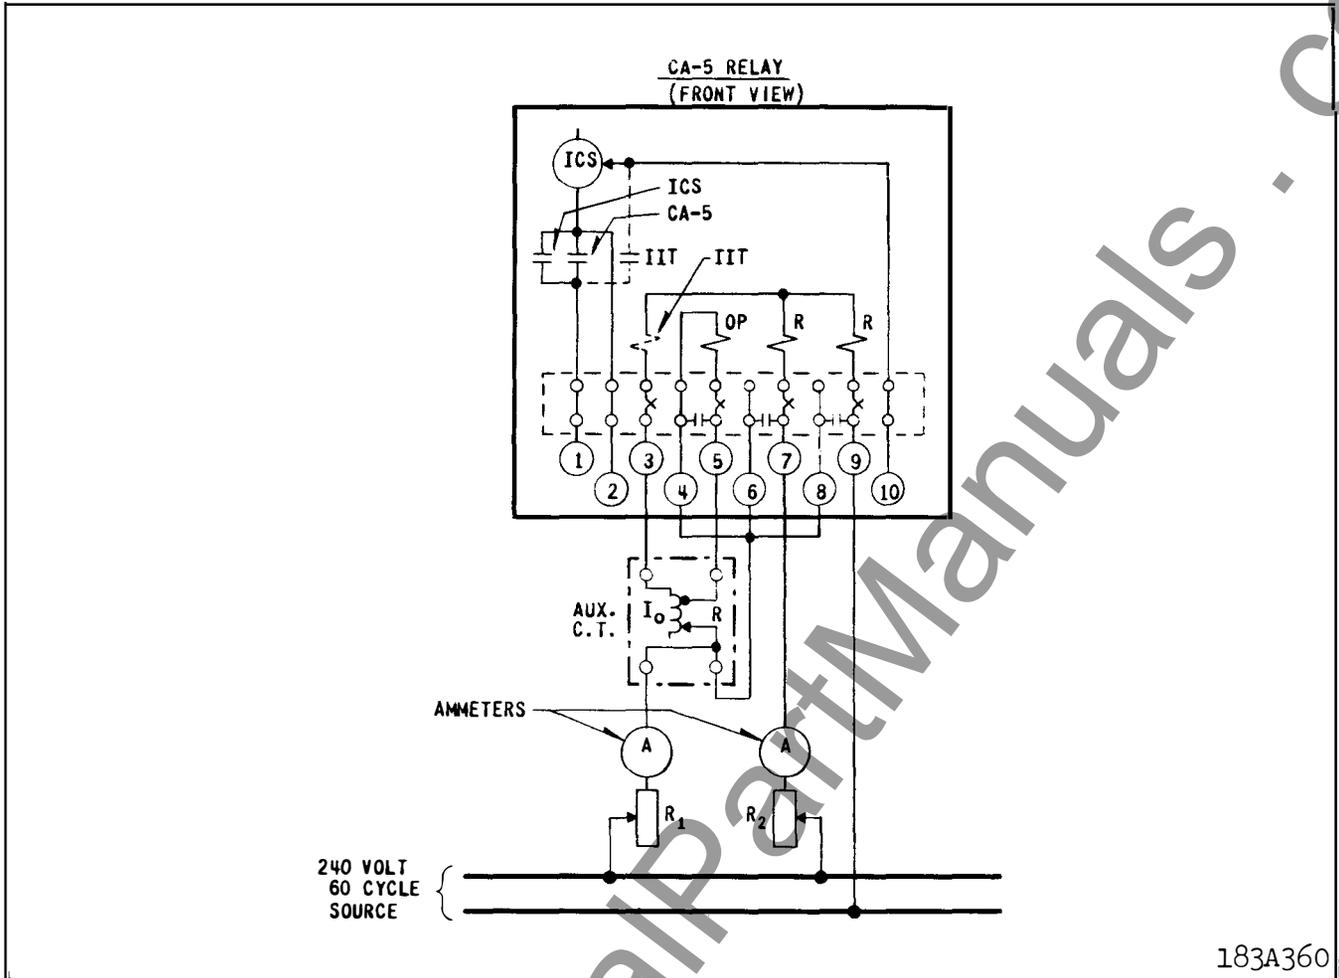

Fig. 9. Diagram of Test Connections for the Type CA-5 Relay in the Type FT21 case.
Connect the relay per the test circuit of Fig. 9. Relays and transformers of matching serial numbers should be connected together. Use tight screw connections between the transformer and the relay. Do not use clip leads.
4. Percentage Slope Characteristic - Points on the percentage slope curve can be checked by means of the test circuit of Fig. 9. The operating current required to operate the relay should be  $\pm 7\%$  of the curve values. Care should be taken not to overheat the relay during these tests.